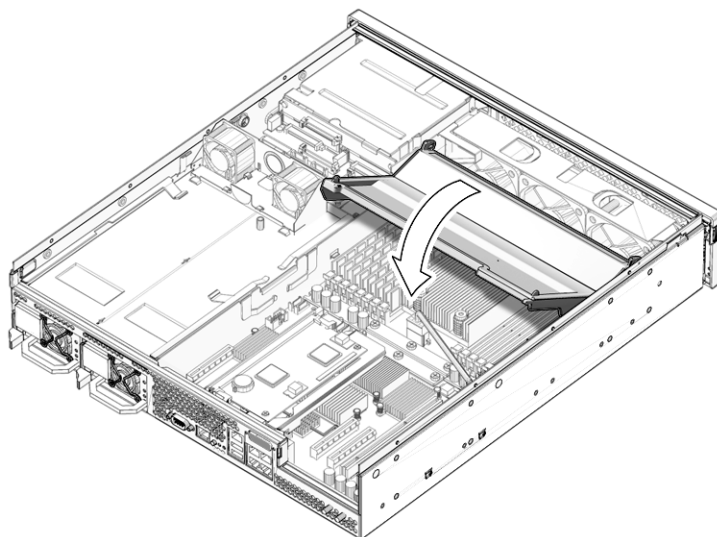

FIGURE 4-9 Lowering the DIMM/CPU Duct
3. Lower the duct down to the horizontal position (FIGURE 4-9).